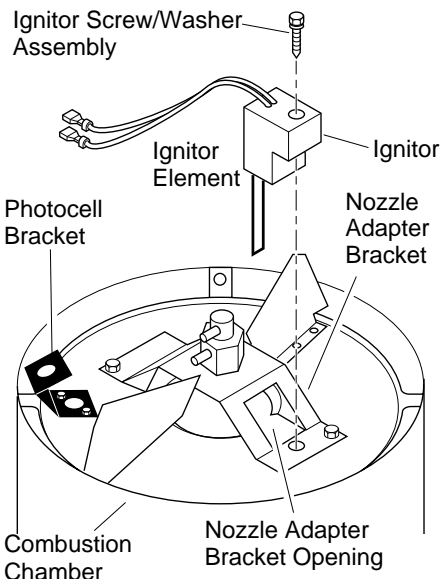

Figure 15 - Ignitor Replacement
6. Remove combustion chamber. Stand combustion chamber on end with nozzle adapter bracket on top (see Figure 15, page 10).
9. Carefully guide ignitor into opening in nozzle adapter bracket. Do not strike ignitor element. Attach ignitor to nozzle adapter bracket with screw using a 1/4" nut driver (see Figure 15). Torque 8 to 15 in. lbs. Do not over torque.